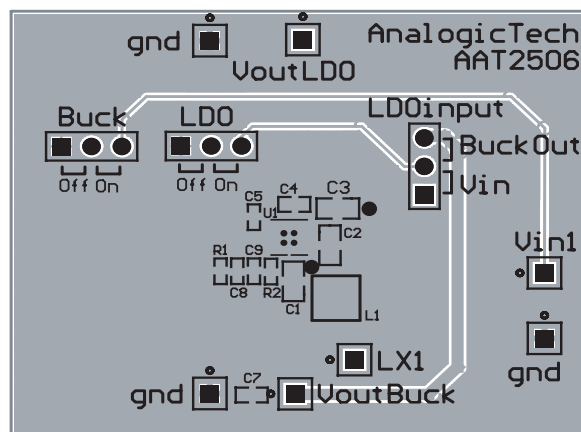

Figure 4: AAT2506 Evaluation Board Bottom Side.
1. The input capacitor C2 should connect as closely as possible to VP and PGND, as shown in Figure 4.